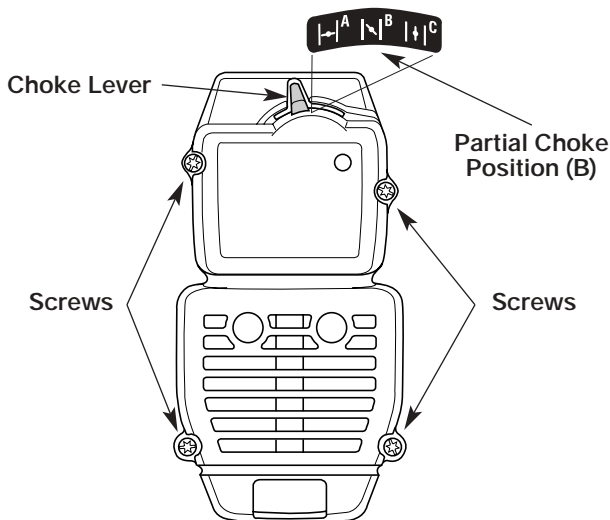

Fig. 23
2. Remove the four (4) screws securing the air filter/muffler cover (Fig. 23). Use a flat blade or T-20 Torx bit screwdriver.
2. Insert the four (4) screws into the holes in the air filter/muffler cover (Fig. 23) and tighten. **Do not over tighten.**